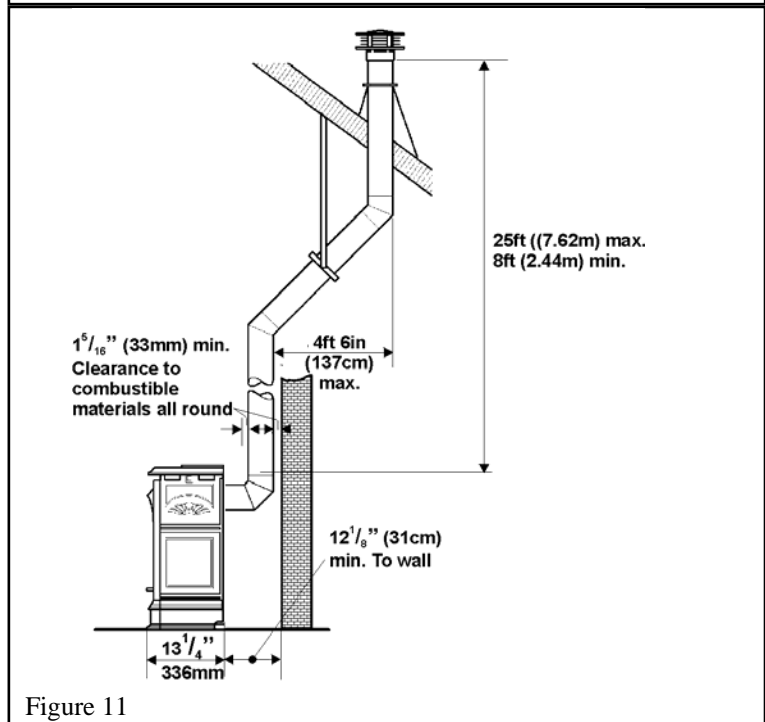

Figure 11
4.2.8. Rear vent connection, vertical vent rise with offset and through the roof termination (Fig.11)